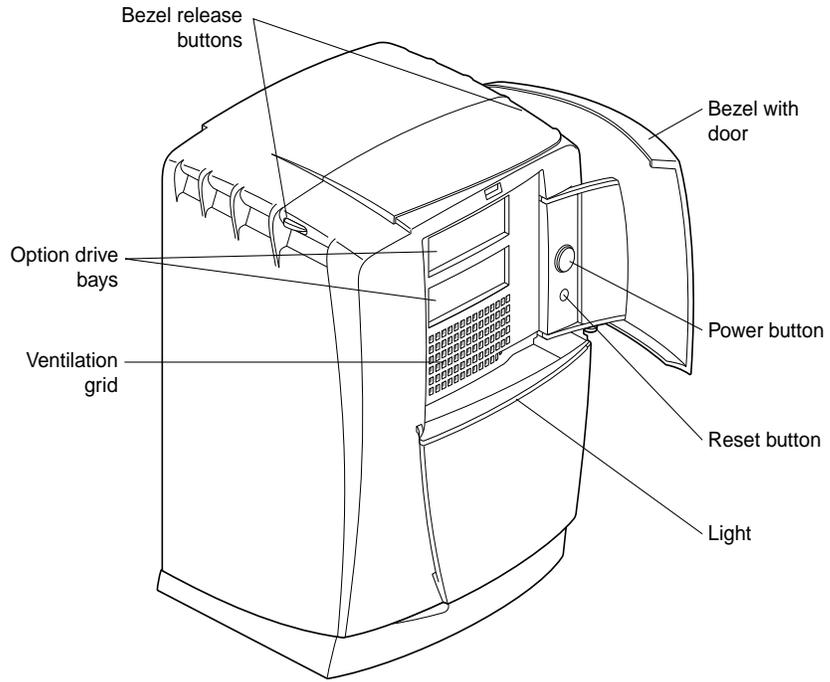
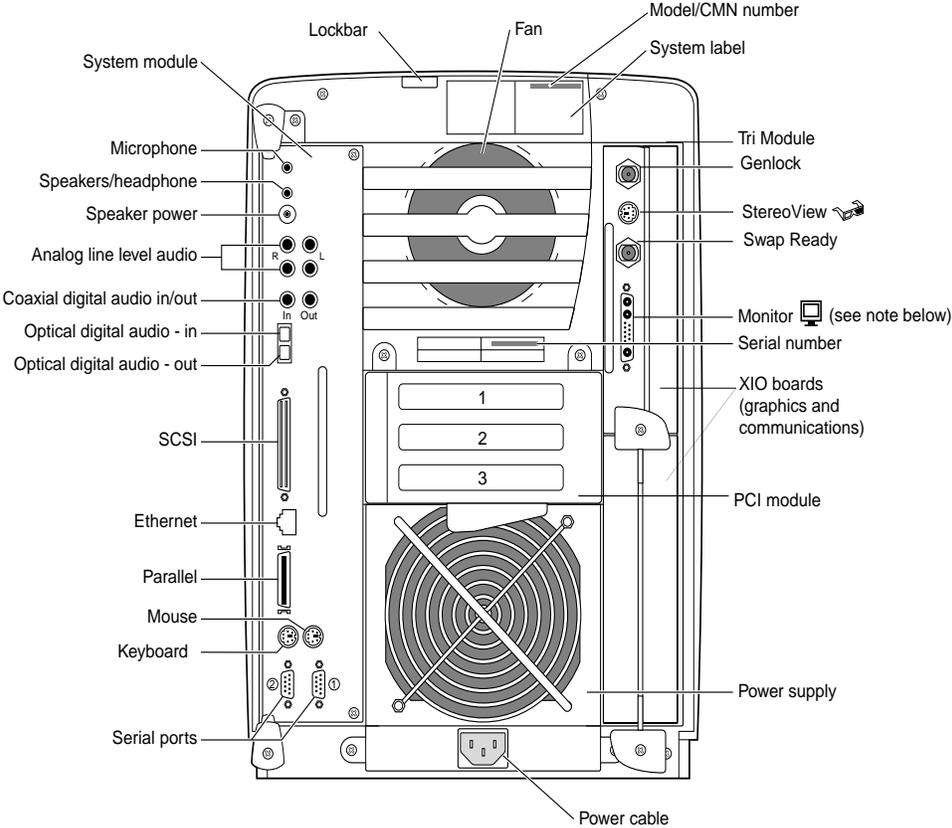
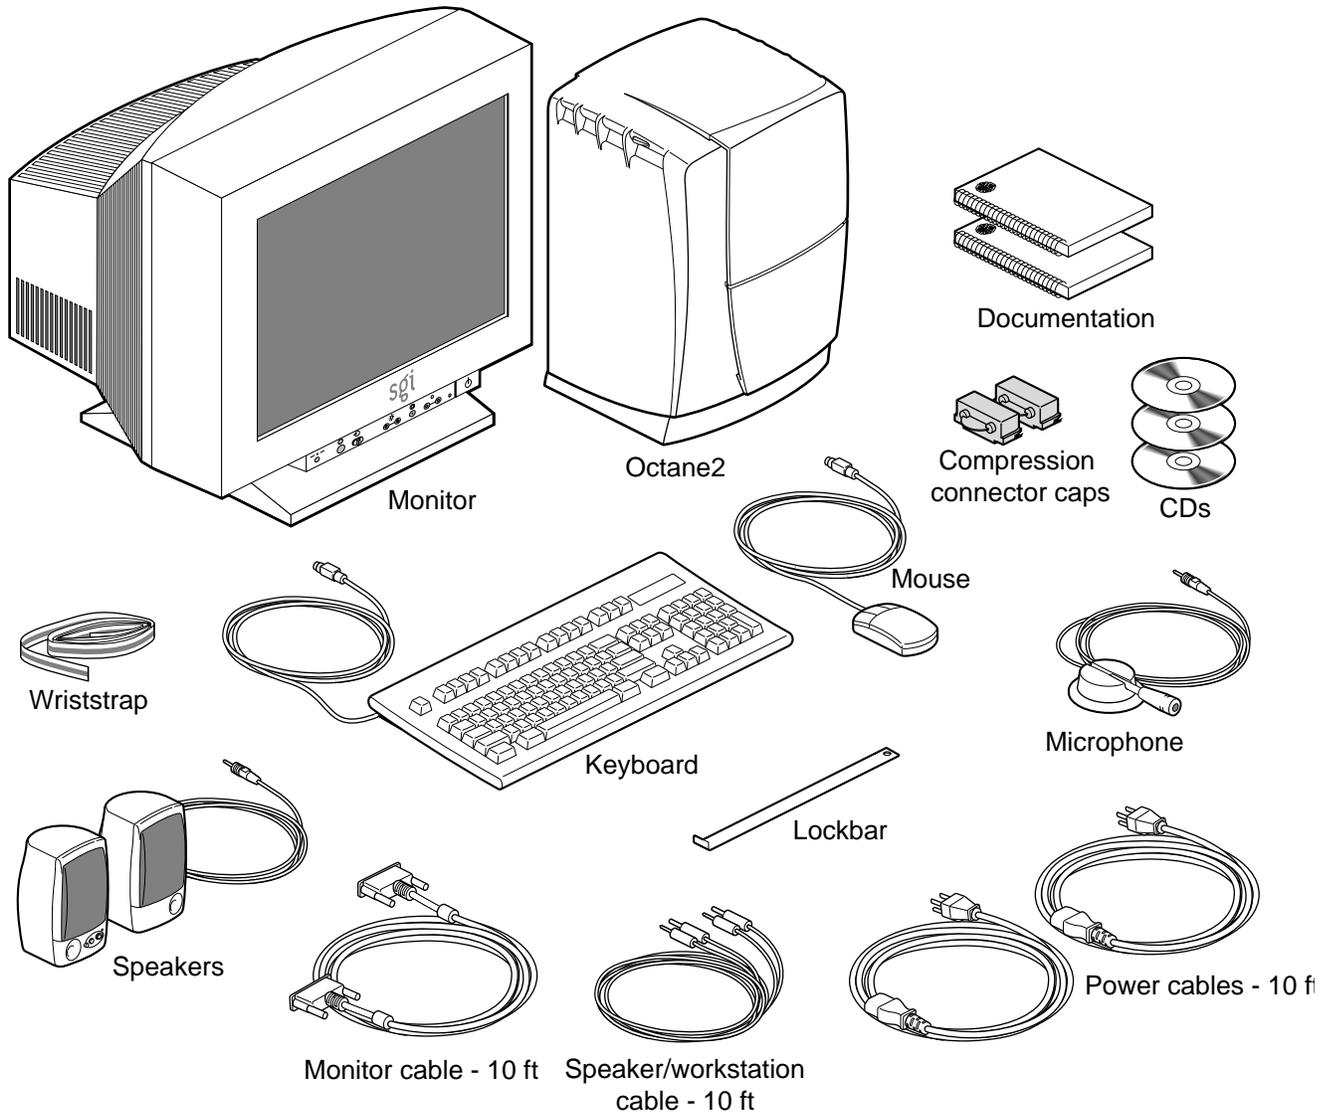

Figure 1-1 Front View of the Octane2 Workstation
Figure 1-2 Back View of the Octane2 Workstation
Figure 1-3 Octane2 Components
- Figure 1-1, Figure 1-2, and Figure 1-3 on pages 3-5, which show the front, back, and parts of the workstation.